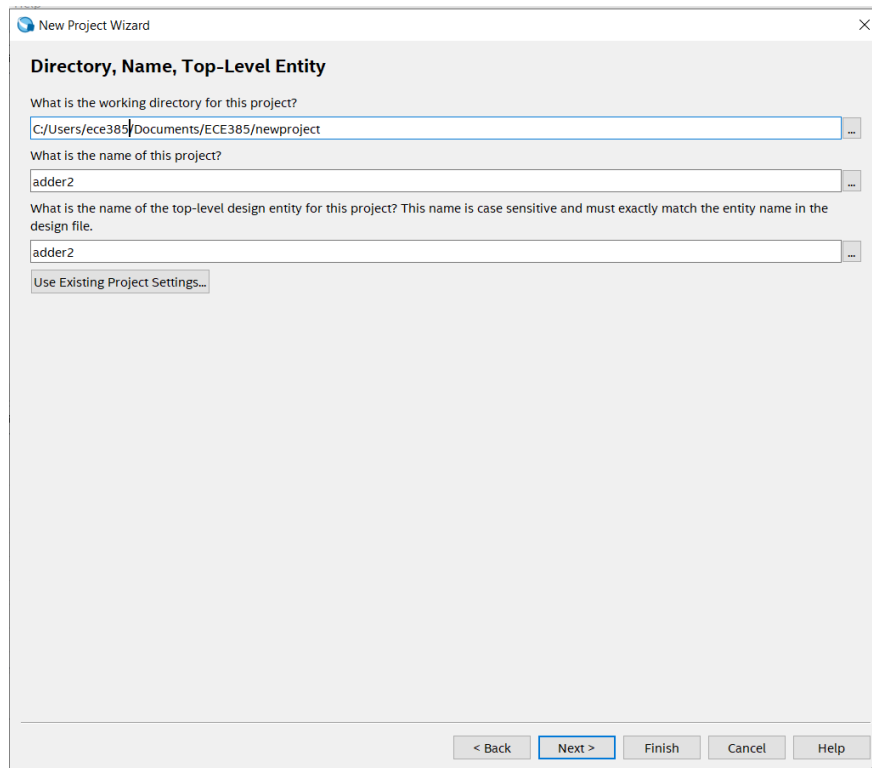

Figure 1
- The window in Figure 1 will appear. Fill in the fields from figure 1 (make sure there are no spaces in any of your entries). The program will ask you if it should create the specified directory if it does not exist; choose *yes*.